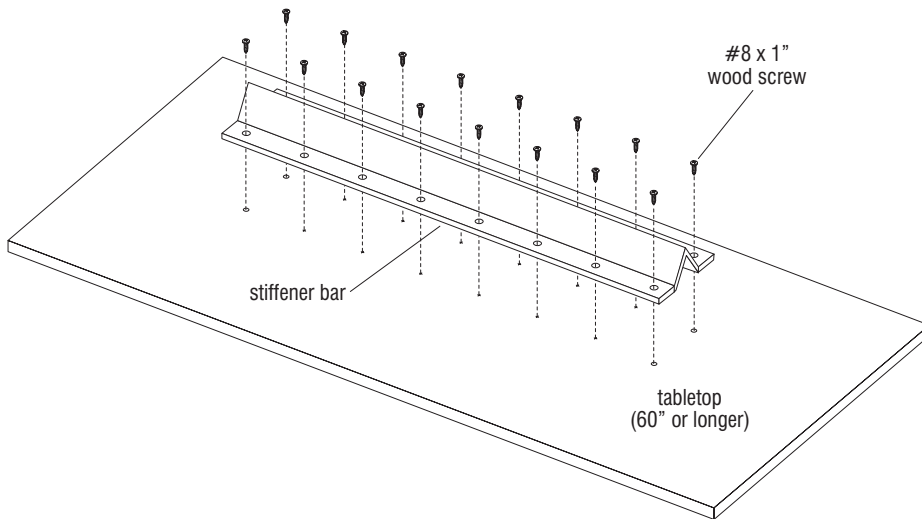

Figure 2
3. If tabletop is 60" in length or longer, a stiffener bar must be installed. Align the four outside mounting holes of the stiffener bar to the four, pre-drilled mounting holes at the underside of the top and secure with #8 x 1" woodscrews. Use the remaining mounting holes in the stiffener bar as a template, and secure the bar to the underside of the tabletop, using a total of sixteen #8 x 1" screws (Figure 2).